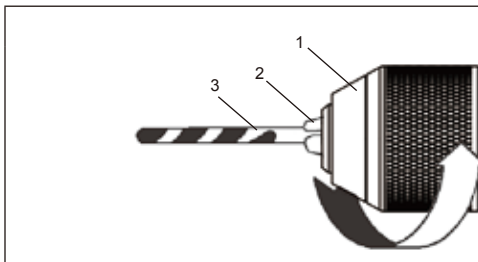

FIG. 10
1. To open the keyless drill chuck, grasp and hold the chuck (1) with one hand (Fig. 10), and rotate in a counterclockwise direction until the chuck jaws (2) open wide enough to accept the bit (3).